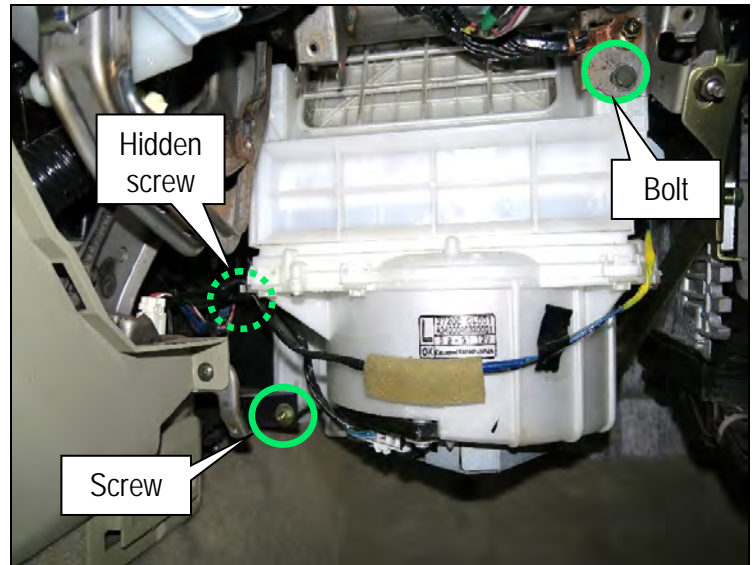

Figure 10
- a. Remove the two (2) screws from the LH side of the blower case and one (1) bolt from the RH side of the blower case (Figure 10).
HINT: The top LH blower case screw is not visible in Figure 10.